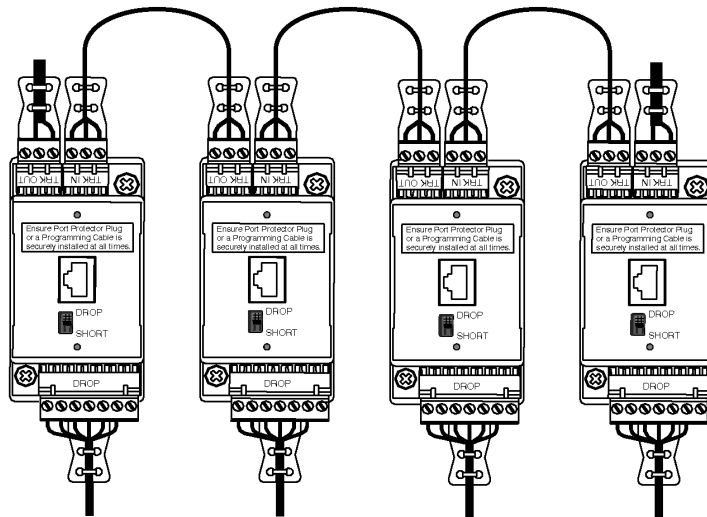

Figure 1 — Terminal Locations
Figure 1 shows the terminal locations.
3	<p>Connect the Terminators (Refer to Figure 1)</p> <p>Connect terminators (Schneider Automation part 990 NAD 230 22) at end sites, to pin 1 (WH) and pin 2 (BL).</p>